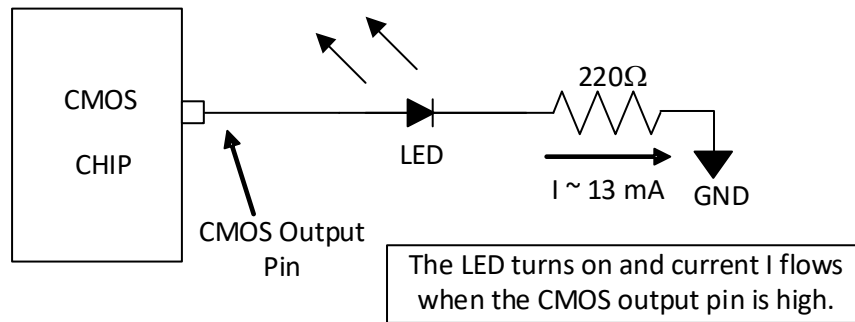
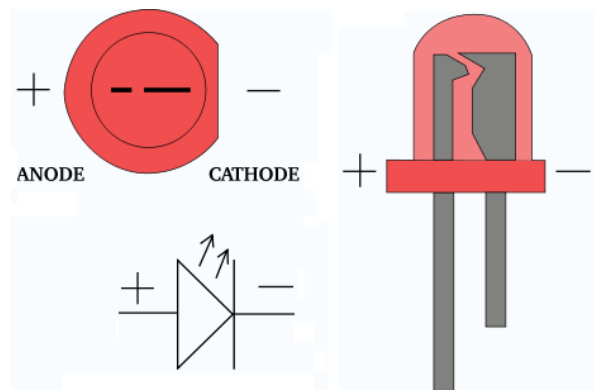

Figure 6. Connecting an LED to a CMOS output pin.
Figure 7. LED terminals
- (b) Connect a separate LED/resistor combination to display the CD74ACT283E Carry-Out (*COUT*). In order to limit the LED current and to protect the chip as well as the LED, it is necessary to put a resistor in series with the LED. For a standard CMOS output, it is desirable to limit the current to approximately 24 mA. For a standard red LED, this can be accomplished by using a 220  $\Omega$  resistor as shown in Figure 6.
2. Obtain a red LED and connect it and the resistor to the carry output pin of the adder chip, as shown in Figure 6. The LED terminals are shown in Figure 7.
- (c) Test the circuit by filling in a table like the one below (Table 6). Use the exact inputs given. Verify that your LED comes on when the carry output is high, and turns off when the carry output is low. (If not, perhaps your LED is in backwards – refer to Figure 7.) Put this table in your report. Have your instructor observe your circuit in operation and initial the table in your report.